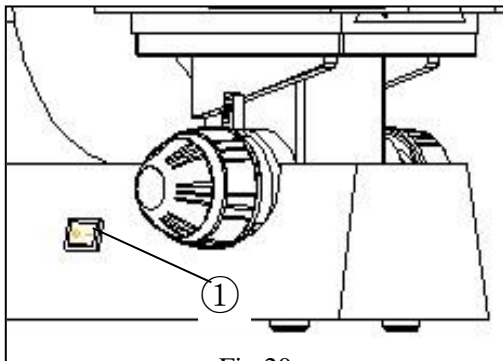

Fig.20
3.2.1 Open Lamp-House (Fig.20)
Connect the power, turn on the main switch ① (Fig.20) to “-”(on).